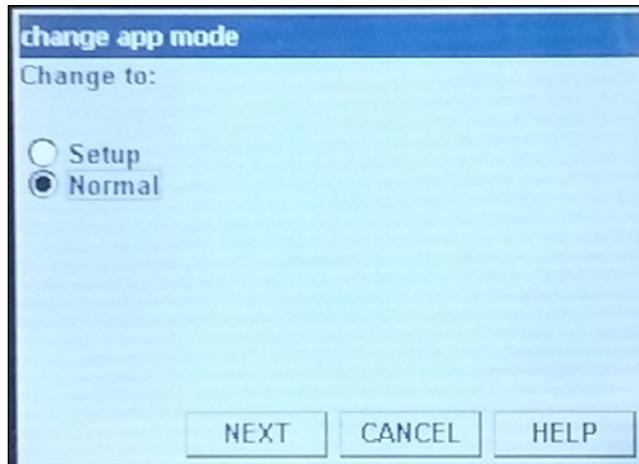

Figure 103 - App Mode Selection
6. Select **Next** and the *Change to* screen appears (Figure 103).